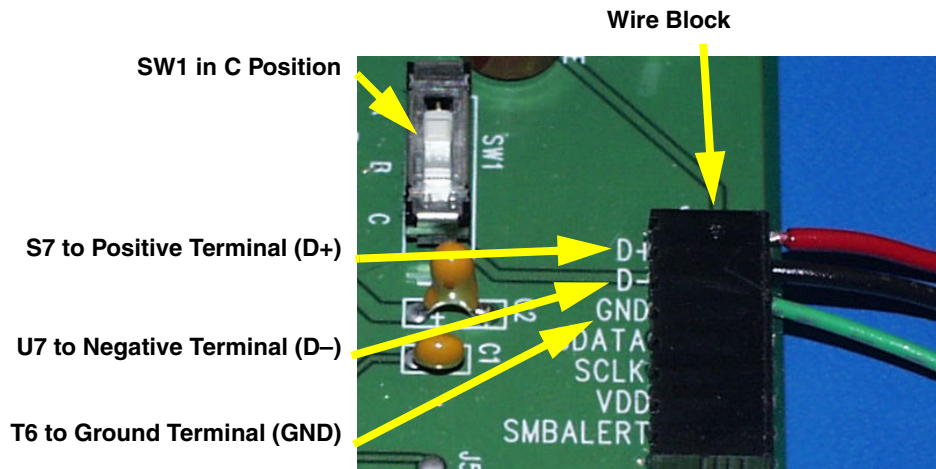
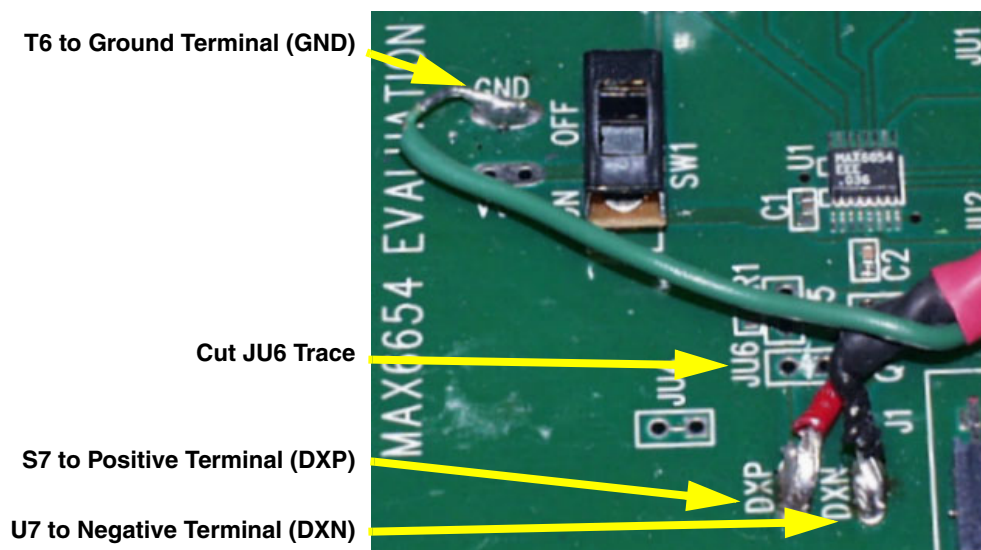

Figure 8. Connections to Analog 1023 Evaluation Kit
Figure 9. Connections to Maxim 6654 Evaluation Kit
Table 2 and Figure 8 and Figure 9 show how to connect the temperature sense wires to the evaluation kit.
- On the Analog 1023 Kit, put Switch 1 (SW1) in the C position, as shown in Figure 8. On the Maxim 6654 Kit, cut the JU6 trace, as shown in Figure 9.